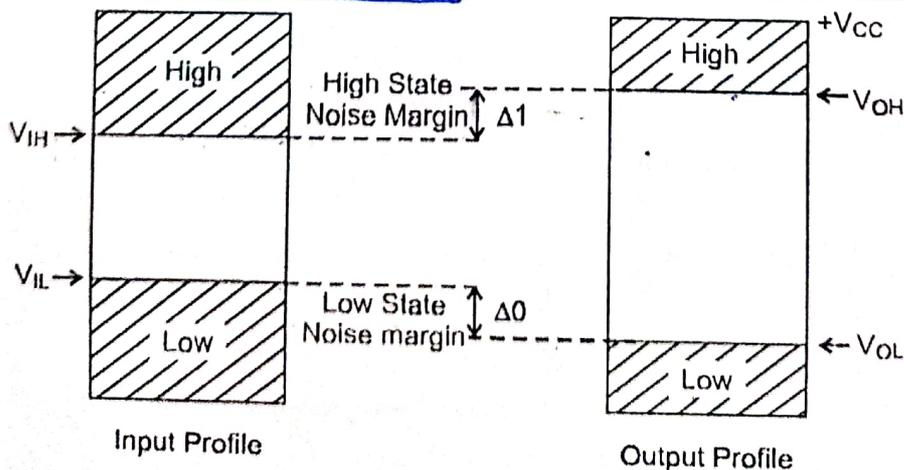

Fig. 10.31 Illustration of Noise Margins.
- Noise Margin Unwanted electric signals, called noise, can appear when connecting the logic devices. These noise signals can cause the voltage levels to rise or reduce from intended value. This may cause circuit malfunction. For example if noise causes an input voltage to reduce below the  $V_{IH}$ , then input is not recognized as logic 1 and thus the circuit malfunctions. The ability of a circuit to tolerate the effect of noise is called as **noise immunity**. The amount by which a circuit can tolerate the effect of noise is called **noise margin**. The noise margins are illustrated in Fig. 10.31. Margins shown in the figure are called **dc noise margin**, they are